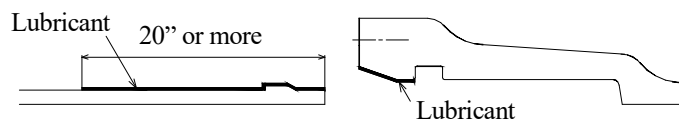

Figure-11 Lubrication
(1) Apply some lubricant to the spigot surface and the inside socket. (See Figure-11.)